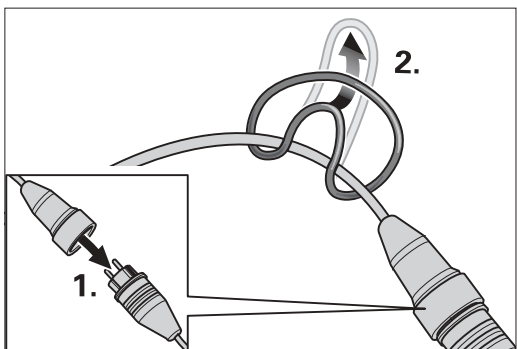
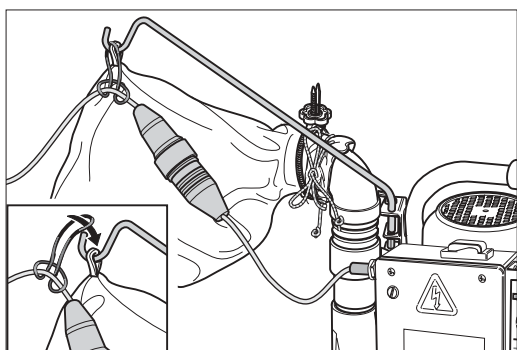

Fig. 31: Connect the motor cable including the extension cable to the extension cable and then fasten the strain relief ring to the extension cable.
Fig. 32: Run the extension cable past the right-hand side of the dust bag and then hook the strain relief ring into the cable rod.
- 1 Insert the plug of the motor cable into the coupling of the extension cable (Fig. 31, 1.).
- 2 Fasten the strain relief ring to the extension cable (Fig. 31, 2.). Run the extension cable past the right-hand side of the dust bag and then hook the ring into the cable rod (Fig. 32).